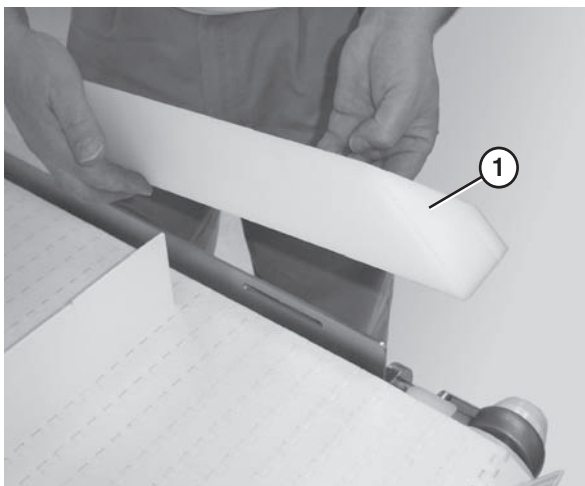

Figure 44
2. Remove the guide (Figure 44, item 1).